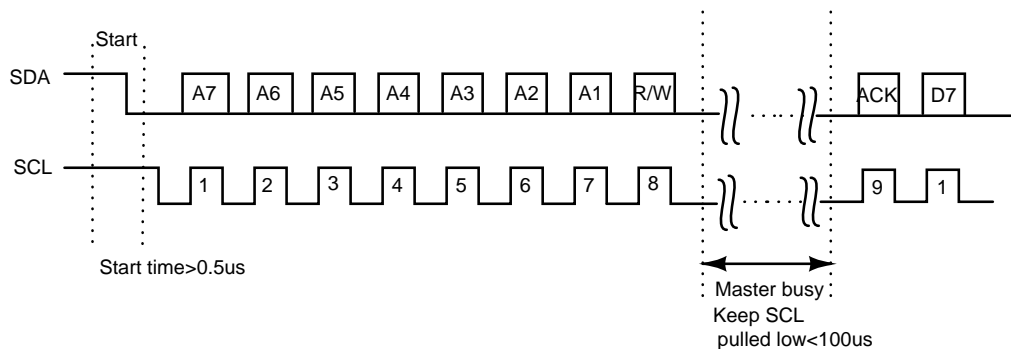

Figure 17: I²C clock stretching example
5. I²C slave can hold off the master in the middle of a transaction using what's called clock stretching (the slave keeps SCL pulled low until it's ready to continue). Refer to figure 17 for a example.